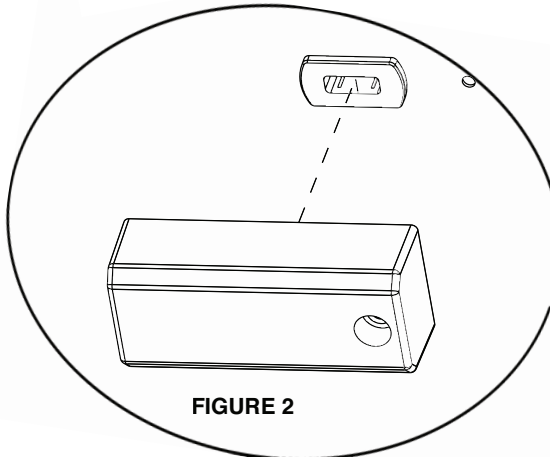

FIGURE 2
2. Plug the c-Max™ into the USB-C receptacle via the USB connection (see **Fig. 2**).